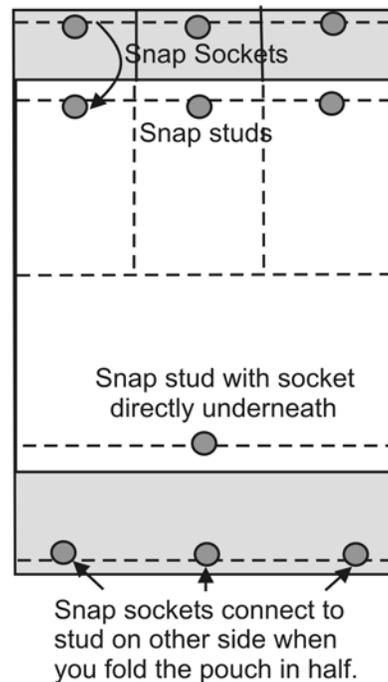

Fig 7-88 Install snaps to close partitions and flaps.
Step 6 – Install snaps to hold the pockets closed. (Fig 7-88). Close the pockets. Fold the kit along its centerline and fold the other flap over it to keep it closed. Install snaps.